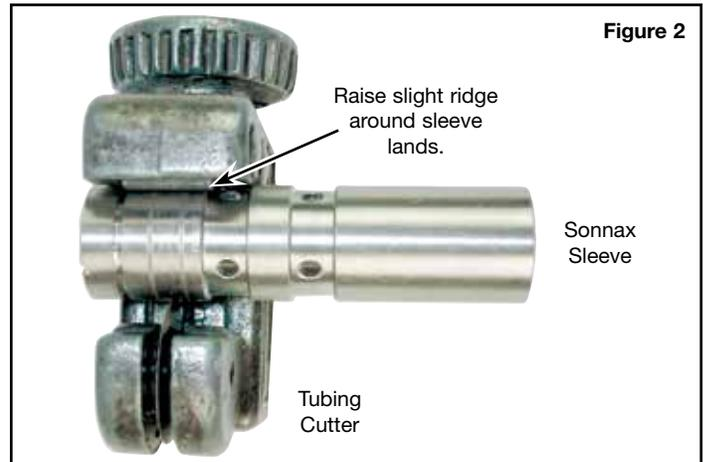

Figure 2
**NOTE:** Sleeve must fit bore with slight resistance. If sleeve slides easily or rotates in bore, a tubing cutter may be used to raise a slight ridge around sleeve lands (**Figure 2**). Liquid sleeve retainer (such as Loctite® 609) is an alternative, used sparingly on inboard end of sleeve. Apply a surface prep/cleaner (such as Permatex® 24163) to the sleeve and bore, which speeds cure and insures retention. This will cure within 30 seconds, so quickly install the sleeve without the valve. After cure, install valve into sleeve.